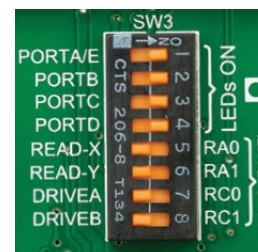

Figure 10-6: SW3.1 through SW3.4 switches are used to enable PORT LEDs
current value specified by the manufacturer. The current varies from 0.2mA to 20mA, depending on the type of the LED and the manufacturer.. The EasyPIC™ v7 board uses low-current LEDs with typical current consumption of 0.2mA or 0.3mA, depending of VCC voltage selection. Board contains 36 LEDs which can be used for visual indication of the logic state on PORT pins. An active LED indicates that a logic high (1) is present on the pin. In order to enable PORT LEDs, it is necessary to enable the corresponding DIP switches on **SW3** (**Figure 10-6**).